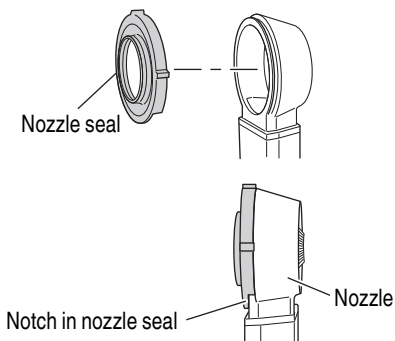

Fig. 18
- (a) Replacing the nozzle seal (Fig. 18)
- ① Remove the nozzle seal as shown in the figure.
- ② Attach a new nozzle seal. Align the nozzle seal so that its notch fits onto the outer shape of the nozzle.